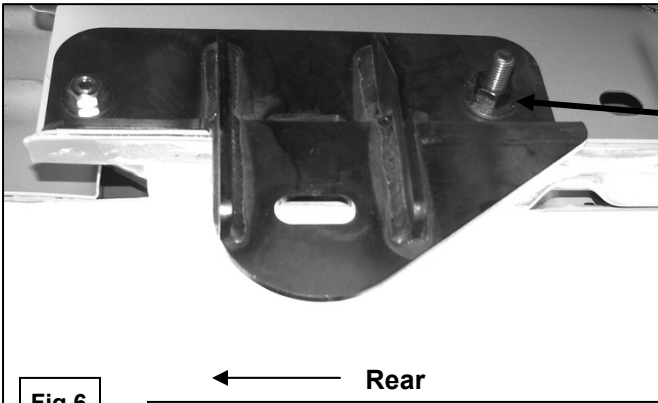

Fig 6
- a. **REGULAR CAB:** Select (1) 12mm Bolt Plate and thread (1) 12mm Plastic Retainer part way onto it. Insert the Bolt Plate and Retainer into the rear mounting hole, **(Figure 6)**. **IMPORTANT:** The Plastic Retainer is designed to prevent the Bolt Plate from falling into the body cavity and to aid in mounting the Bracket. Once inserted, thread the Plastic Retainer all of the way down to snug up against the body.
7. Hang the driver side Rear Mounting Bracket from the Bolt Plate and Retainer and secure it with the included (1) 12mm Lock Washer, (1) 12mm Flat Washer, and (1) 12mm Hex Nut, **(Figure 6&7)**. Insert (1) 10mm x 35mm Hex Bolt, (1) 10mm Flat Washer with (1) 10mm Plastic Retainer into the hole at the rear of the Mounting Bracket from the outside-in, **(Figure 8)**. **NOTE:** The Plastic Retainer is intended to protect the outer painted surface of the body. Thread the Plastic Retainer onto the Hex Bolt so that it is between the 10mm Flat Washer and the body. Secure the Bracket with (1) 10mm Lock Washer, (1) 10mm Flat Washer and (1) 10mm Hex Nut. Do not tighten hardware at this time.
8. Attach the Sidebar to the Mounting Brackets using the included (2) 1/2" x 2" Hex Head Bolts, (2) 1/2" Flat Washers, and (2) 1/2" Lock Washers. Do not tighten hardware at this time.